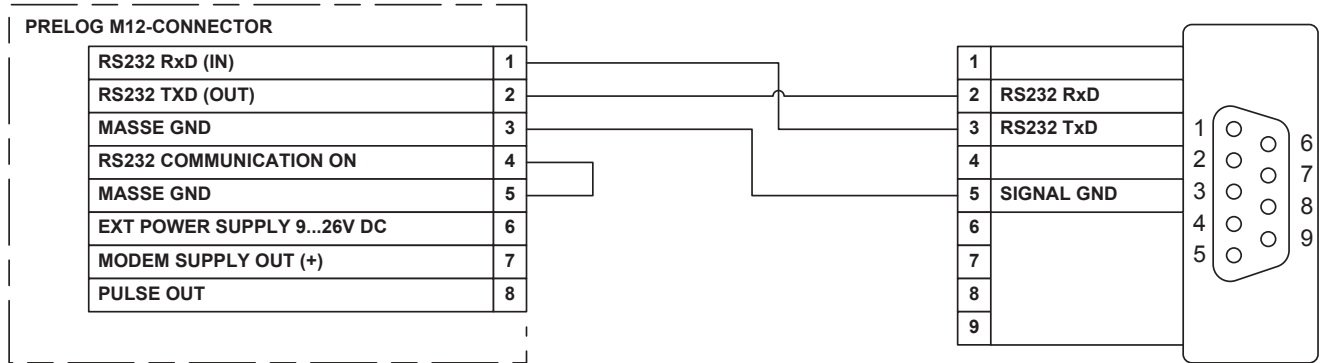

Fig. 08
In general the PreLOG RS232 interface is deactivated to save energy. It will only be activated by the PreLOG to transmit data. For external access to the PreLOG via RS232, e. g. to retrieve data or to configure the PreLOG, the control pin “RS232-Communication ON” (4) has to be connected with the “Masse GND” pin (3) or (5) (see Fig. 08).